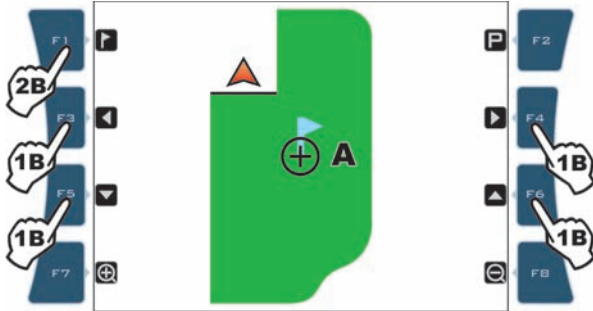

Fig. 282
- 1 Press keys **F3**, **F4**, **F5**, **F6** to shift position of cursor **A** (Fig. 282) on field.